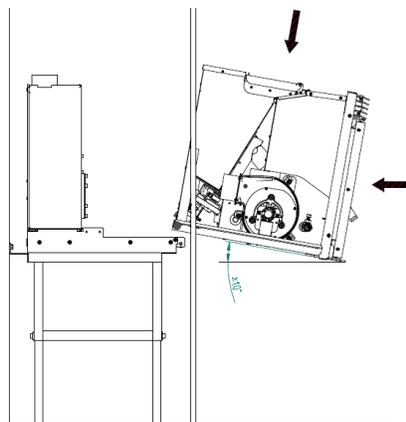

Figure 7 – Installation
- After securing the base of the equipment and the chimney being installed place the moving part of the equipment as shown in figure 7.